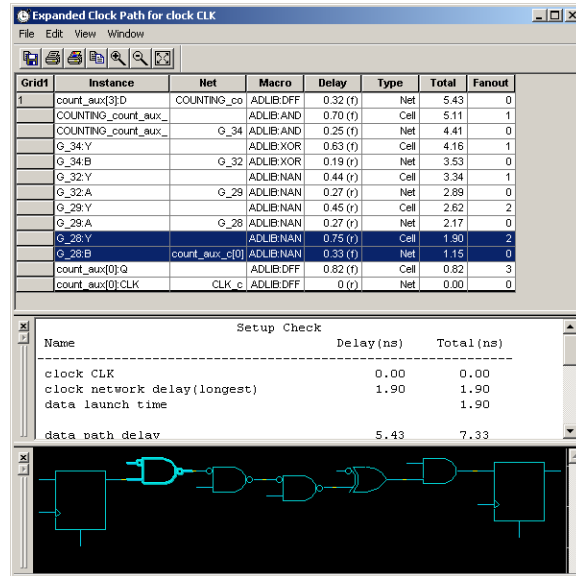

Figure 2-4. Timer Expanded Paths Window
4. Expand the path by double-clicking the path, right-click and select “**Expand Path**” from the shortcut menu, or in the **Edit** menu, click **Expand Path**. The Expanded Paths window (Figure 2-4)
opens and displays a single path in the Expanded Paths window, as shown in Figure 2-4.
- Setup Check / Hold Check window - Set the Show option (in Preferences) to “Longest” to view a detailed analysis of the Setup Check, as in Figure 2-4. Set the Show option to “Shortest” to view a detailed analysis of the Hold Check. (These analyses include clock insertion delay information.)
- 5. Expand the path.** To do so, double-click the path, click the Expand button. The Expanded Paths window (Figure 2-4) opens and displays a